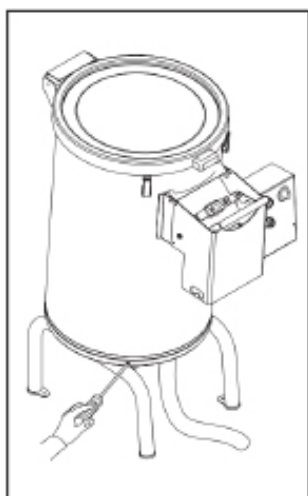

Fig. 13.
- Screw the cylinder back onto the base (fig. 13). Make sure that the machine face (product discharge opening) is at the bottom of the work table surface (it is tilted forward).